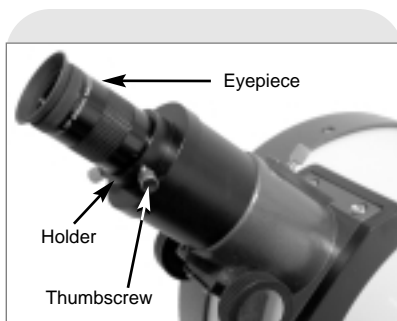

Fig. 10a: Insert eyepiece into holder and tighten thumbscrews.
- Insert the eyepiece: Schmidt-Newtonian models (Fig. 10a):** Lift to remove the dust cap from the eyepiece holder on the focuser assembly. Set the dust cap aside in a safe place and replace it when you have finished observing to protect the eyepiece assembly. Back off the eyepiece thumbscrews (**1, Fig. 1a**) and insert the supplied SP 26mm eyepiece (**3, Fig. 1a**) into the the eyepiece holder. Tighten the holder thumbscrews to a firm feel to secure the eyepiece.